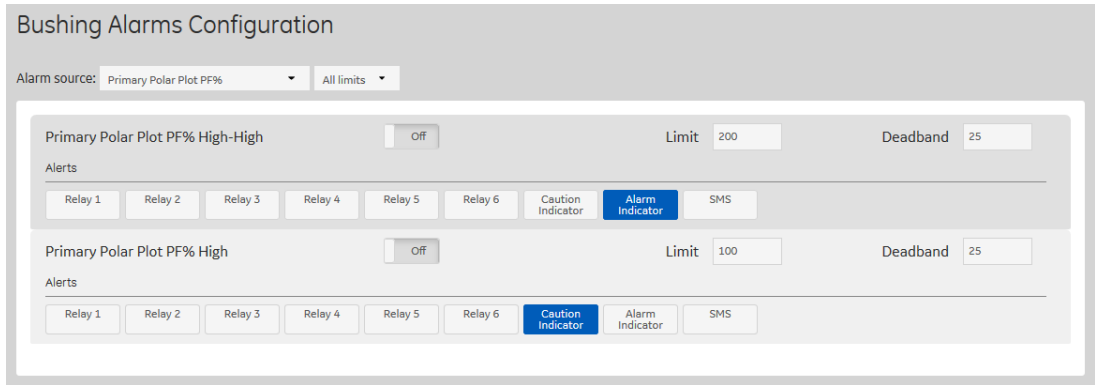

Figure 10-26: Bushing Alarms Configuration
- Select **Alarm > Bushing Alarm Configuration > Primary Polar Plot PF%** as shown in Figure 10-26 to adjust the alarm as required for both Primary and Secondary sources, High-High and High limits.